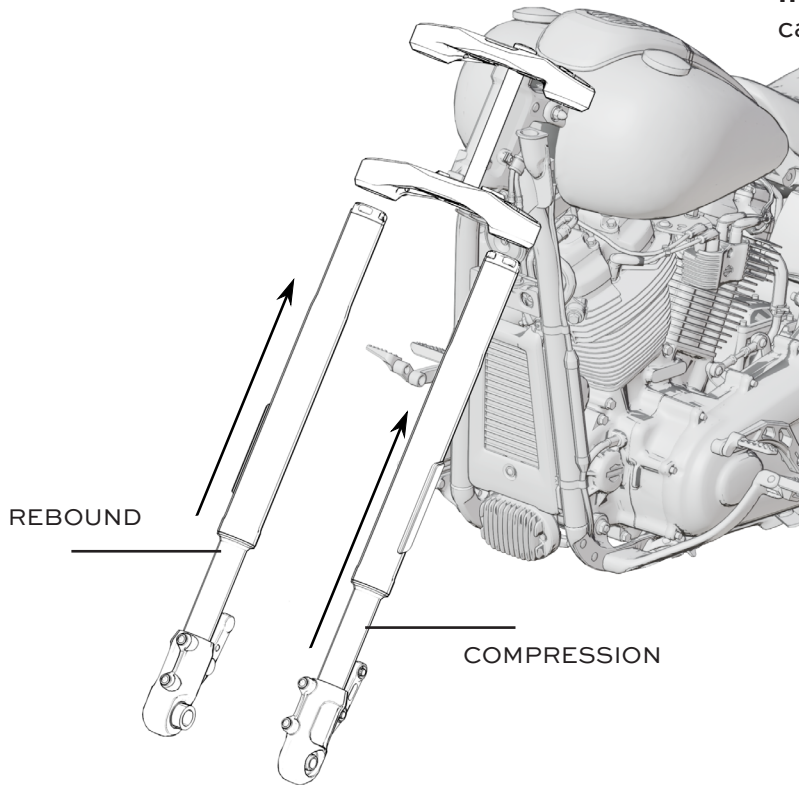

Fig. 4
2. Install each fork leg into trees. **(See Fig. 4)** Ensure pinch bolts are loose. Starting with one side of the triple tree using small flat blade screwdrivers or shims, expand both top and bottom fork clamp pinch bolts slightly. This makes sliding the fork into the triple trees easier, while avoiding damaging the fork legs. Repeat process with opposite side.